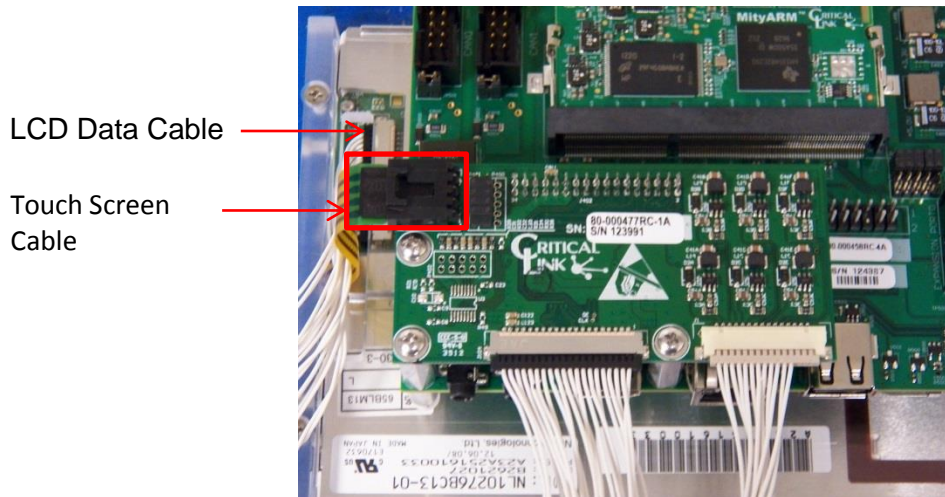

Figure 5: All Cables connected to the LCD Display on the other side of the Mount
7. Insert the Touch Screen cable into the Video Adapter PCA. See Figure 5.